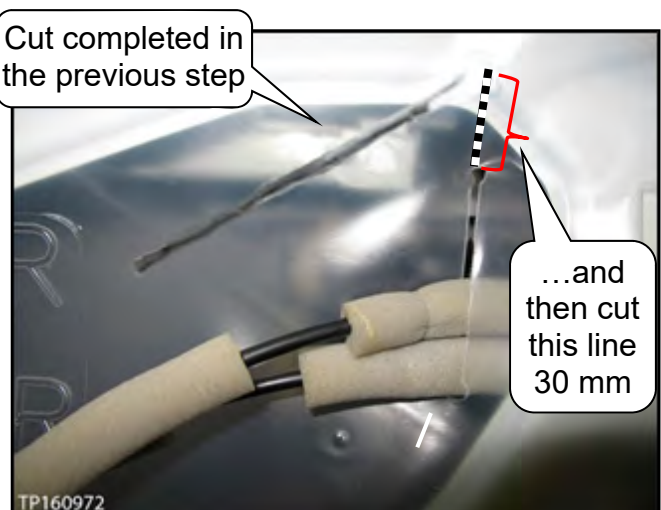

Figure 13
3. After completing step 2, make a second 30 mm vertical cut from molded circle to molded circle where shown in Figure 13.